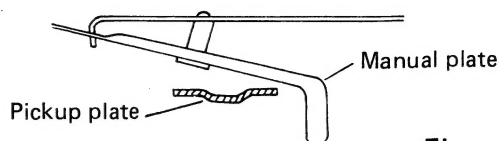

Figure 11.
- 3) While the stylus tip rides in the first modulated groove (not lead-in groove) of 12" record (30cm), the manual plate must not touch the Pickup plate (See Figure 11).